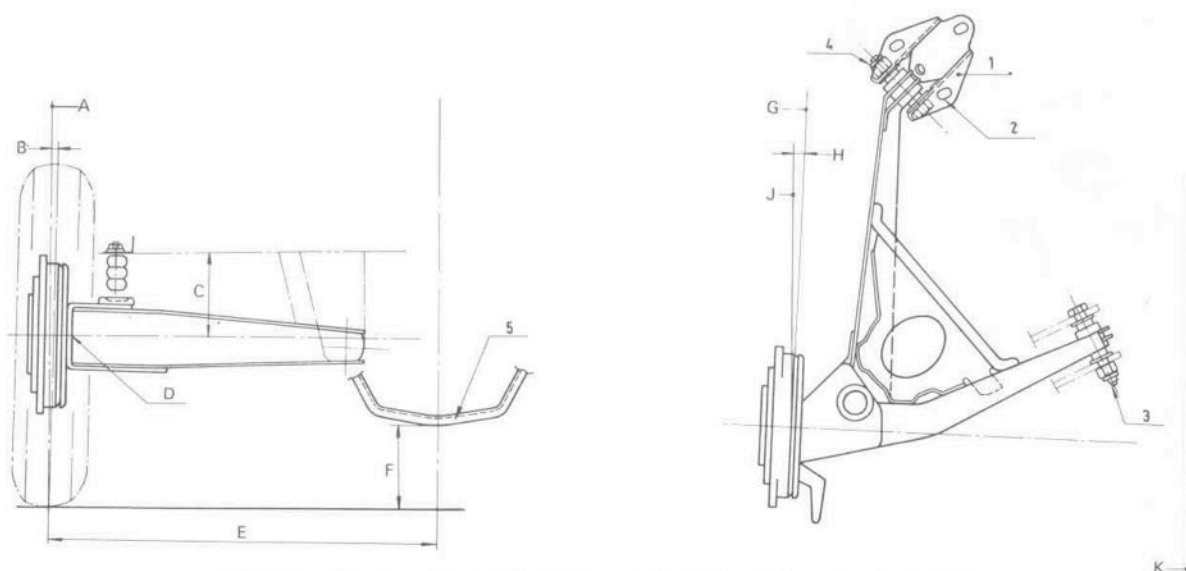

FIG 7:8 Diagrams for checking rear wheel camber (left) and toe-in (right)
**Key to Fig 7:8** A Vertical B Camber angle, 0 deg. 22 min. to 1 deg. 22 min. C = 5.35 inch (136 mm) between buffer bracket and axle shaft centre D Axle shaft centre E = 23.68 inch (601.5 mm) F = 5.23 ± .39 inch (133 ± 10 mm) G Wheel plane H Toe-in, .20 to .35 inch (5 to 9 mm) J Parallel to car centre line 1 Front control arm support 2 Slotted holes 3 Rear pivot pin 4 Front pivot pin 5 Front engine mounting